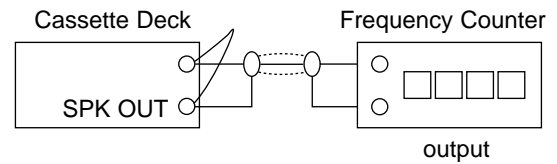

Fig.1
- 2) Connect the cassette deck to the frequency counter as in fig.1.